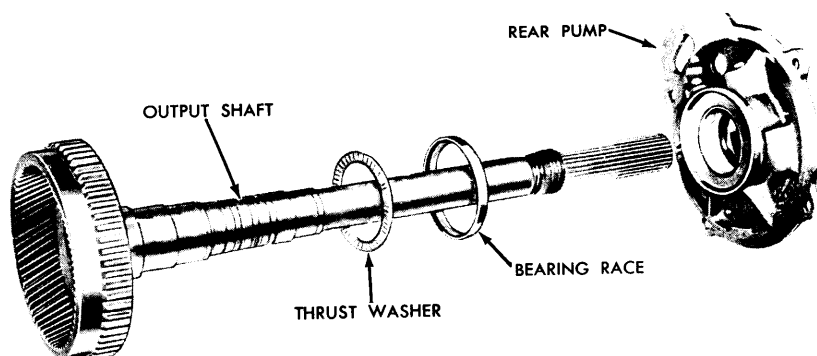

FIG. 27—Output Shaft and Thrust Washer
10. Remove the governor snap ring from the output shaft. Slide the governor assembly off the output shaft. Then remove the governor drive ball. Remove the rear pump and remove the extension housing and pump gaskets. Remove the rear pump thrust washer and race (Fig. 27).